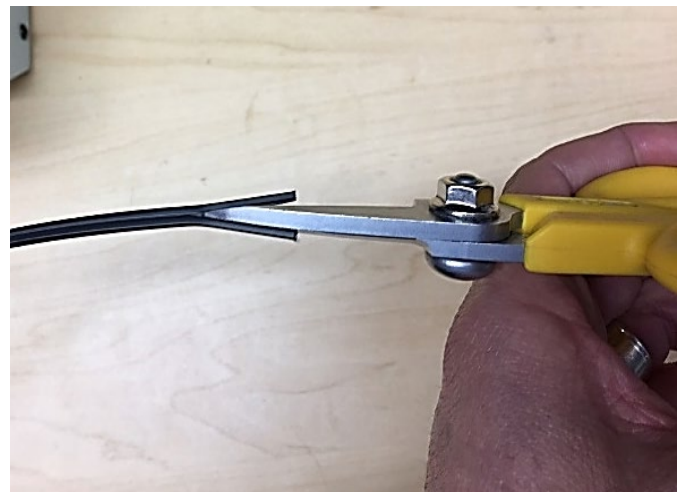

Figure 3
3. To start peel, cut down the center web 1-2 inches. (see figure 3)